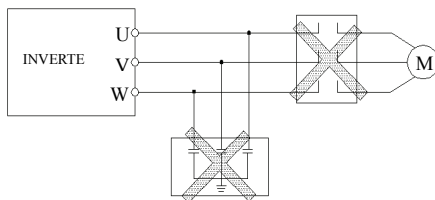

Fig.3-6 Forbid to use contactor and absorbing capacitor
5. Do not add absorbing capacitor or other resistance-capacitor absorbing device between inverter and motor; also do not add electromagnetic contact. If contactor and other switch component needed to add, please make sure inverter suspended without output, show as Fig.3-6